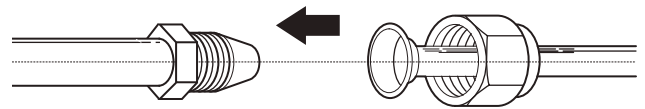

Fig. 2.12
3. Make sure it is facing in the right direction, because you cannot remove the nut or change its direction after flaring. See **Fig. 2.12**.